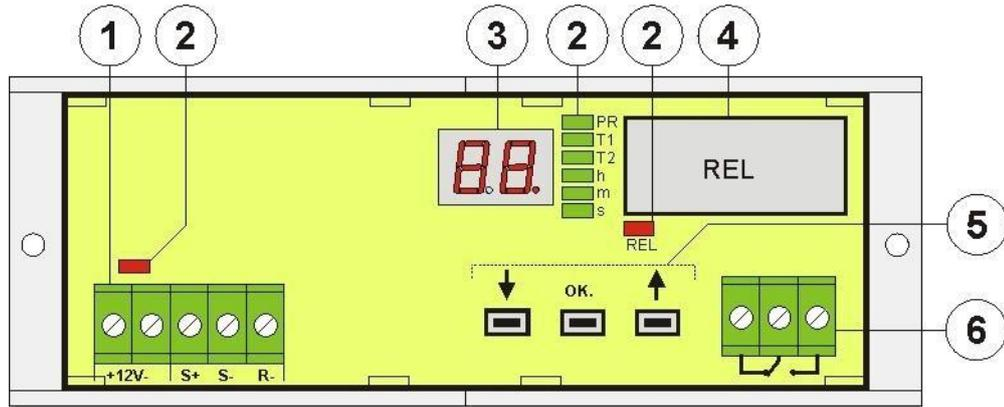

Fig. 1. The module's view.
Number [Fig. 1]	Description
①	Connector: +12V- - the module's power supply, DC voltage S+ - control input supplied by the positive power supply S- - control input activated by negative power supply (ground) R- - reset input activated by negative power supply (ground)
②	LEDs – optical indication red – supply voltage REL – ON, relay on PR – blinking – programming mode, ON – previewing the current mode T1 – time indication T1 T2 – time indication T2 h – hours indication (0-99h) m – minutes indication (0-59m) s – seconds indication (0-59s)
③	LED display.
④	Relay
⑤	Buttons - Decreasing the parameter, move down one level in the menu - Increasing the parameter, move up one level in the menu OK. - Confirm the settings
⑥	The REL relay connector CAUTION! Connector pin-out in the figure 1 shows the potential-free status of the relay.